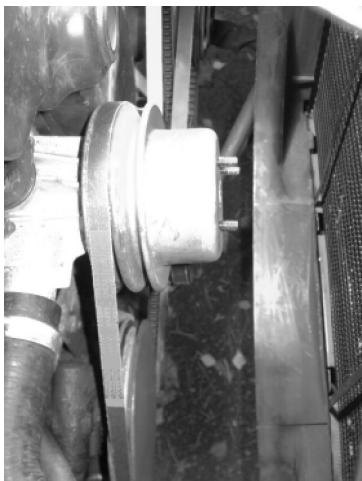

Figure 27.
16. Slip the remaining belt over back groove of waterpump pulley, power steering pulley, and back groove of crankshaft pulley. Then, slide the waterpump pulley (**Figure 27**) over the studs of the waterpump. The belt is loose now, but will tighten as the fan/clutch assembly is installed.